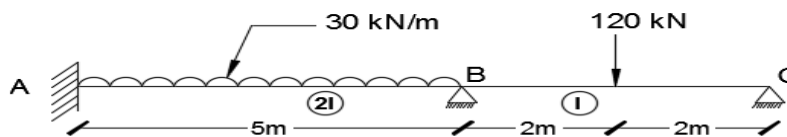

Fig.7
9. (a) Analyse the continuous beam shown in **fig.7** by Flexibility method, where the support B sinks by 5mm. Sketch BMD and SFD. Take $EI = 15 \times 10^3 \text{ kN-m}^2$. **14M**